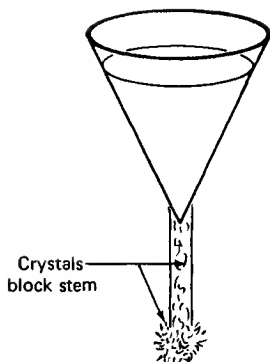

Fig. 43 The too long a funnel stem—Oops!
2. Get yourself a **stemless funnel**, or, at least, a **short-stemmed funnel**. Why? Go ahead and *use* a stem funnel and watch the crystals come out in the stem as the solution cools, blocking up the funnel (Fig. 43).